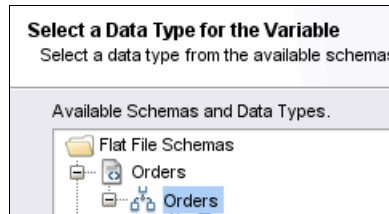

Figure 12-43 Selecting a variable type from a flat file schema type
3. Repeat the previous step to create another variable named `ordersParsedData`. For the data type, select **Flat File Schemas** → **Orders** → **Orders**, as shown in Figure 12-43.